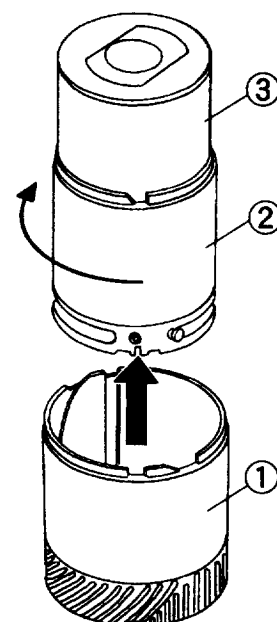

Fig14
(13) Remove the HELLICOID FRAME (①) by turning the ZOOM CAM (②) as shown in Fig.14.